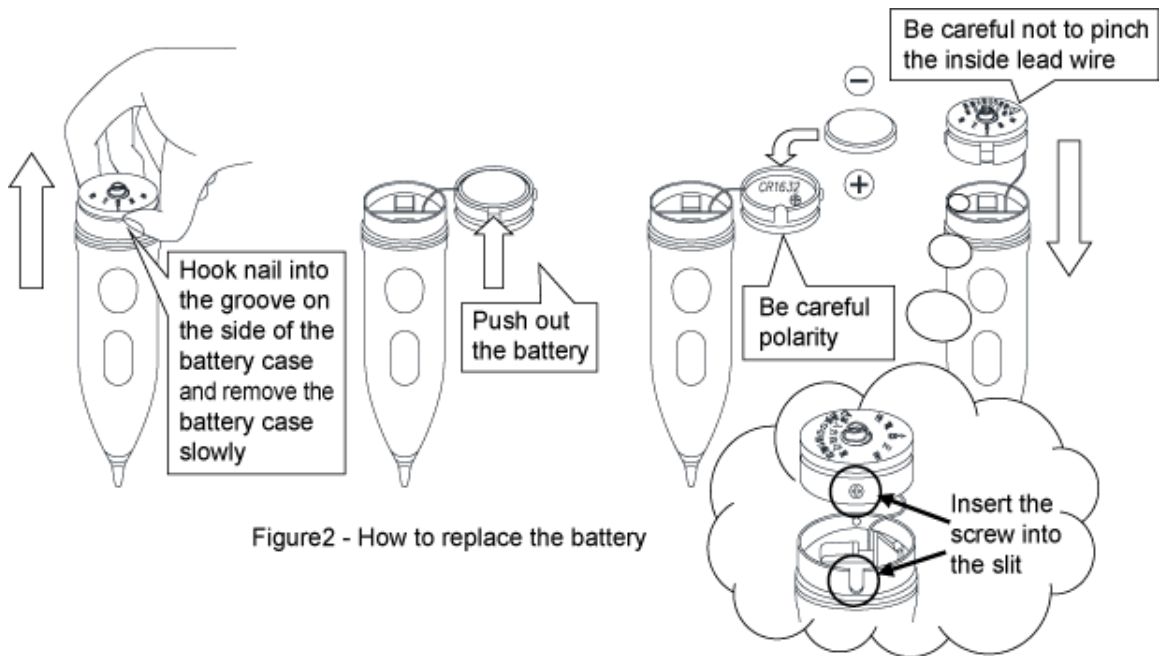

Figure2 - How to replace the battery
See below Figure 2 for steps (2) to (4).